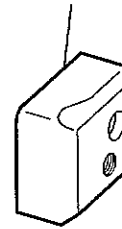

Fig. 9
1. Service life of cutter (Fig. 9)